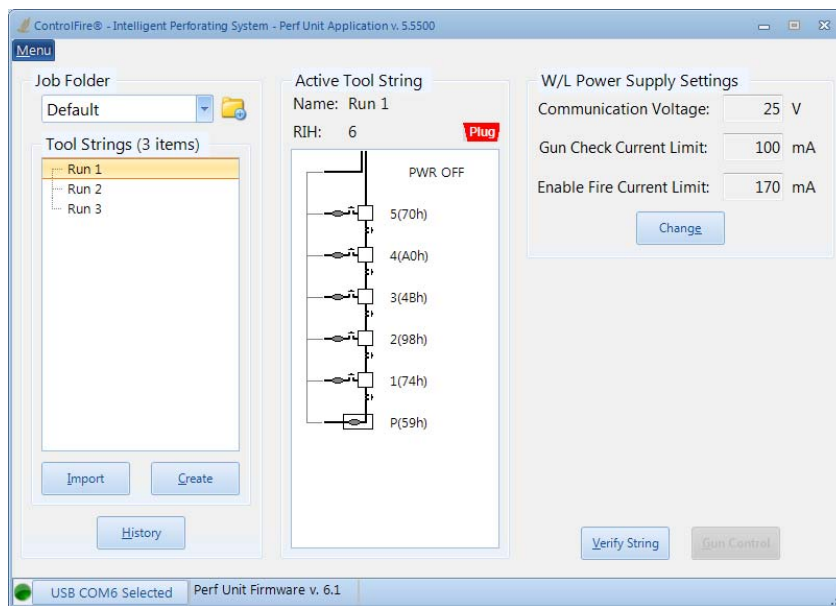

Figure 16
3. Select the appropriate Com port for communication to the Perforating Command and Control Panel and then click **Open**. When reusing the same computer and Perf Unit the Select Perf Unit Com Port screen may not appear and instead the Set-Up screen appears as shown in Figure 16.